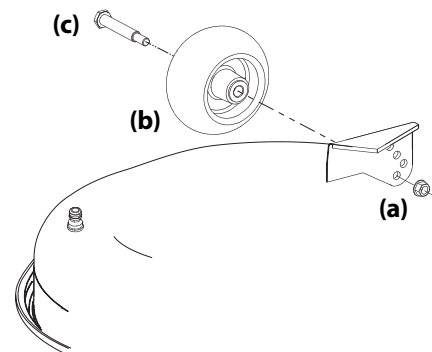

Figure 2-9
- a. Remove the lock nut securing one of the front gauge wheel shoulder screws to the deck. Remove the gauge wheel and shoulder screw. See Figure 2-9.